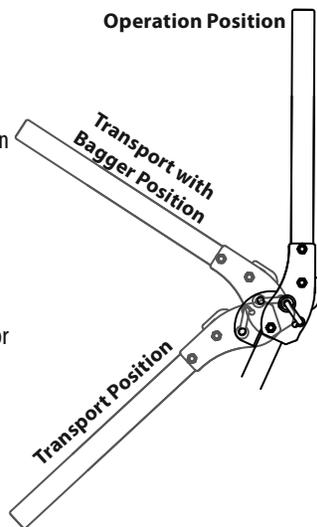

Figure 3
Refer to Figure 3 and the following descriptions and uses for the three (3) positions for the ROPS.